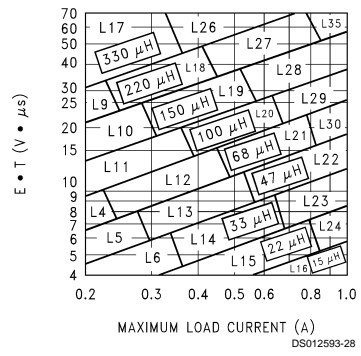

FIGURE 7. LM2598-ADJ
<p>Given: V_{OUT} = Regulated Output Voltage $V_{IN(max)}$ = Maximum Input Voltage $I_{LOAD(max)}$ = Maximum Load Current F = Switching Frequency (Fixed at a nominal 150 kHz).</p> <p>1. Programming Output Voltage (Selecting R_1 and R_2, as shown in Figure 1) Use the following formula to select the appropriate resistor values.</p> $V_{OUT} = V_{REF} \left(1 + \frac{R_2}{R_1} \right) \quad \text{where } V_{REF} = 1.23V$ <p>Select a value for R_1 between 240Ω and 1.5 kΩ. The lower resistor values minimize noise pickup in the sensitive feedback pin. (For the lowest temperature coefficient and the best stability with time, use 1% metal film resistors.)</p> $R_2 = R_1 \left(\frac{V_{OUT}}{V_{REF}} - 1 \right)$ <p>2. Inductor Selection (L1) A. Calculate the inductor Volt • microsecond constant $E \cdot T$ ($V \cdot \mu s$), from the following formula:</p> $E \cdot T = (V_{IN} - V_{OUT} - V_{SAT}) \cdot \frac{V_{OUT} + V_D}{V_{IN} - V_{SAT} + V_D} \cdot \frac{1000}{150 \text{ kHz}} \quad (V \cdot \mu s)$ <p>where V_{SAT} = internal switch saturation voltage = 1V and V_D = diode forward voltage drop = 0.5V</p> <p>B. Use the $E \cdot T$ value from the previous formula and match it with the $E \cdot T$ number on the vertical axis of the Inductor Value Selection Guide shown in Figure 7.</p> <p>C. on the horizontal axis, select the maximum load current.</p> <p>D. Identify the inductance region intersected by the $E \cdot T$ value and the Maximum Load Current value. Each region is identified by an inductance value and an inductor code (LXX).</p> <p>E. Select an appropriate inductor from the four manufacturer's part numbers listed in Figure 8.</p> <p>3. Output Capacitor Selection (C_{OUT}) A. In the majority of applications, low ESR electrolytic or solid tantalum capacitors between 82 μF and 220 μF provide the best results. This capacitor should be located close to the IC using short capacitor leads and short copper traces. Do not use capacitors larger than 220 μF. For additional information, see section on output capacitors in application information section.</p>	<p>Given: $V_{OUT} = 20V$ $V_{IN(max)} = 28V$ $I_{LOAD(max)} = 1A$ $F = \text{Switching Frequency (Fixed at a nominal 150 kHz)}$.</p> <p>1. Programming Output Voltage (Selecting R_1 and R_2, as shown in Figure 1) Select R_1 to be 1 kΩ, 1%. Solve for R_2.</p> $R_2 = R_1 \left(\frac{V_{OUT}}{V_{REF}} - 1 \right) = 1k \left(\frac{20V}{1.23V} - 1 \right)$ <p>$R_2 = 1k (16.26 - 1) = 15.26k$, closest 1% value is 15.4 kΩ. $R_2 = 15.4 \text{ k}\Omega$.</p> <p>2. Inductor Selection (L1) A. Calculate the inductor Volt • microsecond constant ($E \cdot T$),</p> $E \cdot T = (28 - 20 - 1) \cdot \frac{20 + 0.5}{28 - 1 + 0.5} \cdot \frac{1000}{150} \quad (V \cdot \mu s)$ $E \cdot T = (7) \cdot \frac{20.5}{27.6} \cdot 6.67 \quad (V \cdot \mu s) = 34.8 \quad (V \cdot \mu s)$ <p>B. $E \cdot T = 34.8 \quad (V \cdot \mu s)$</p> <p>C. $I_{LOAD(max)} = 1A$</p> <p>D. From the inductor value selection guide shown in Figure 7, the inductance region intersected by the 35 ($V \cdot \mu s$) horizontal line and the 1A vertical line is 100 μH, and the inductor code is L29.</p> <p>E. From the table in Figure 8, locate line L29, and select an inductor part number from the list of manufacturers part numbers.</p> <p>3. Output Capacitor Selection (C_{OUT}) A. See section on C_{OUT} in Application Information section.</p>